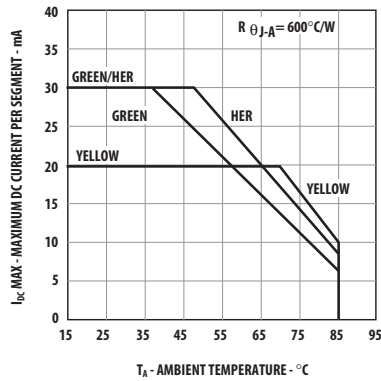

Figure 9. Maximum Allowable DC Current vs. Ambient Temperature. $T_{JMAX} = 100^{\circ}\text{C}$.
6. Derate maximum DC current for HER above $T_A = 48^\circ\text{C}$ at 0.58 mA/°C, Yellow above $T_A = 70^\circ\text{C}$ at 0.66 mA/°C, and Green above $T_A = 37^\circ\text{C}$ at 0.48 mA/°C. See Figure 9.